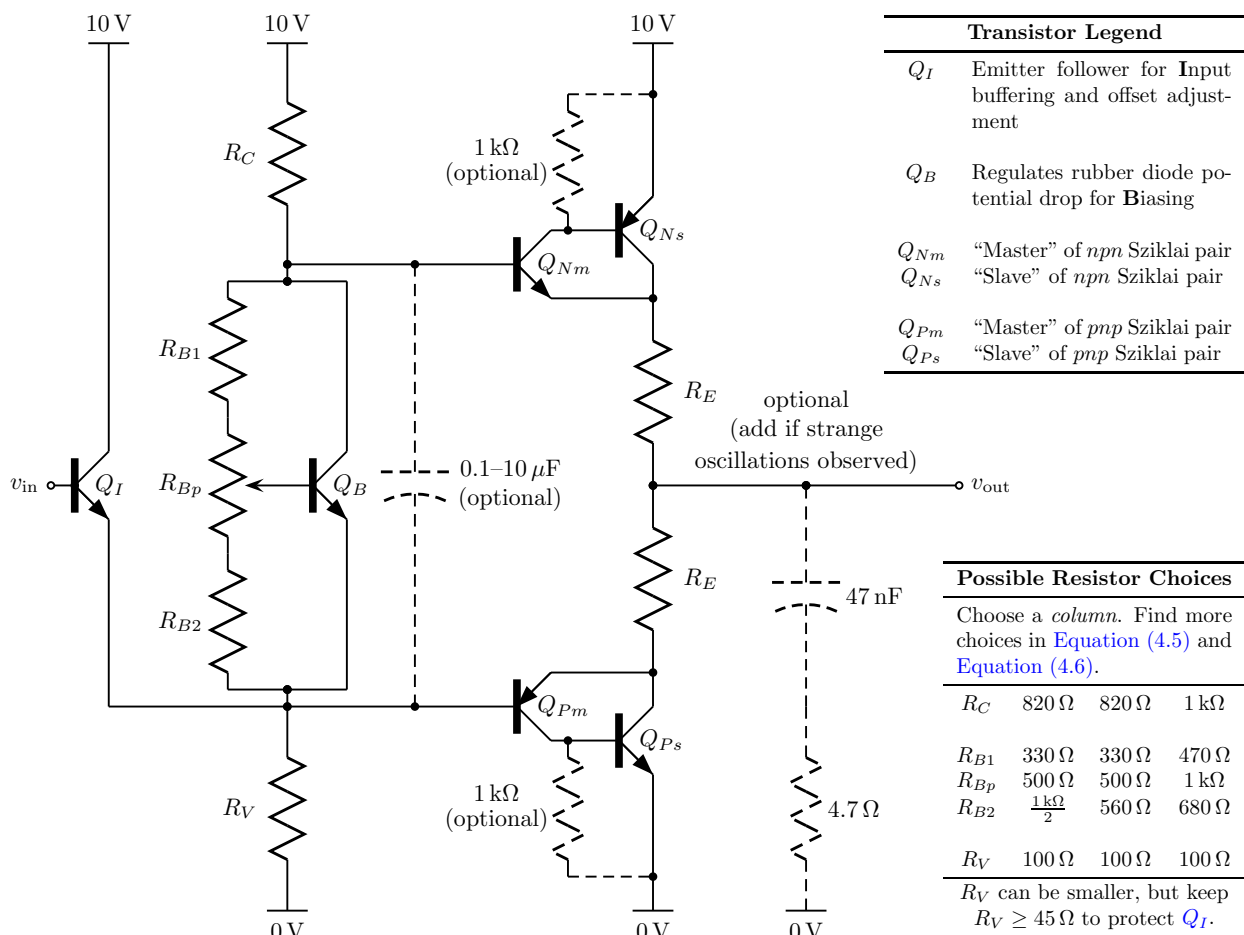

Figure 4.18: Class-AB current amplifier. **Pick small**  $1\ \Omega \leq R_E \leq 10\ \Omega$ .
- The “Current Amplifier” is shown in Figure 4.18, which **slightly DIFFERS from the book!**
5. For class-AB operation, trim current amplifier (CA) for 2–3 mA of quiescent current (QC).
- If output **OSCILLATES** (e.g., blips, ramps, or *big* “noise”) for a constant input, add optional  $RC$  network (i.e., *lag compensation*) shown in Figure 4.18 from  $v_{\text{out}}$  to  $0 V$  (if  $4.7 \Omega$  is not available, use  $10 \Omega || 10 \Omega || 100 \Omega$  or  $12 \Omega || 12 \Omega$  or similar).
- If output is now unstable, add optional  $RC$  network shown in Figure 4.18 from  $v_{\text{out}}$  to  $0 V$ .